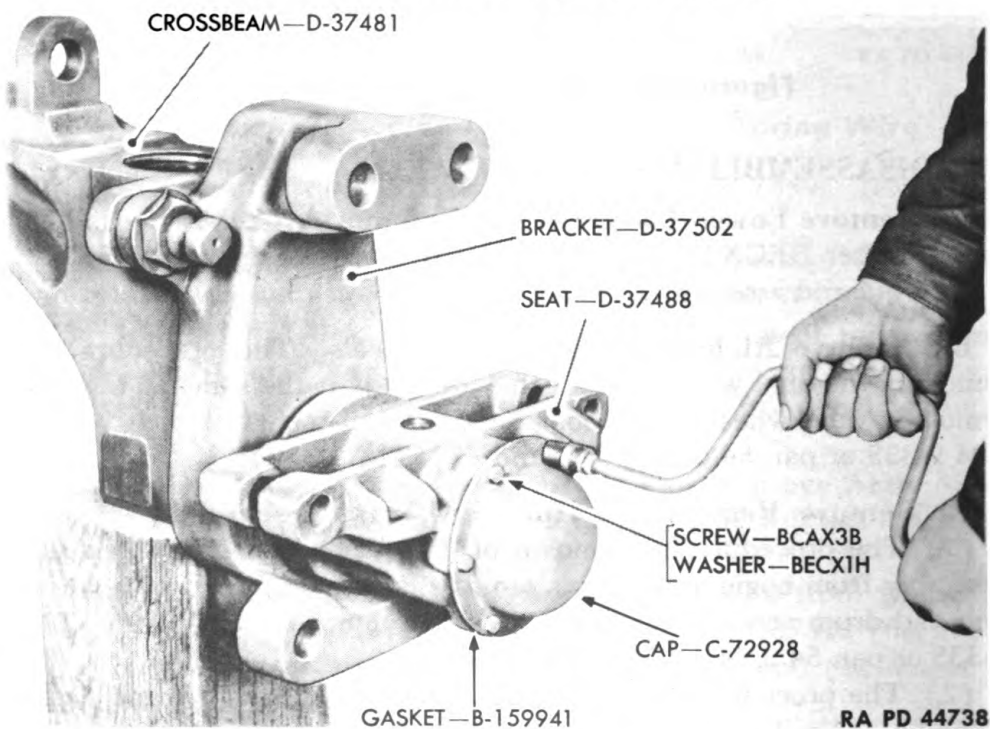

Figure 269—Removing Bogie Spring Seat Hub Cap
(1) Remove screws BCAX3B and lock washers BECX1H that hold hub cap on bogie spring seat, and then lift off hub cap C72928 and hub cap gasket B159941 (figs. 269 and 277).